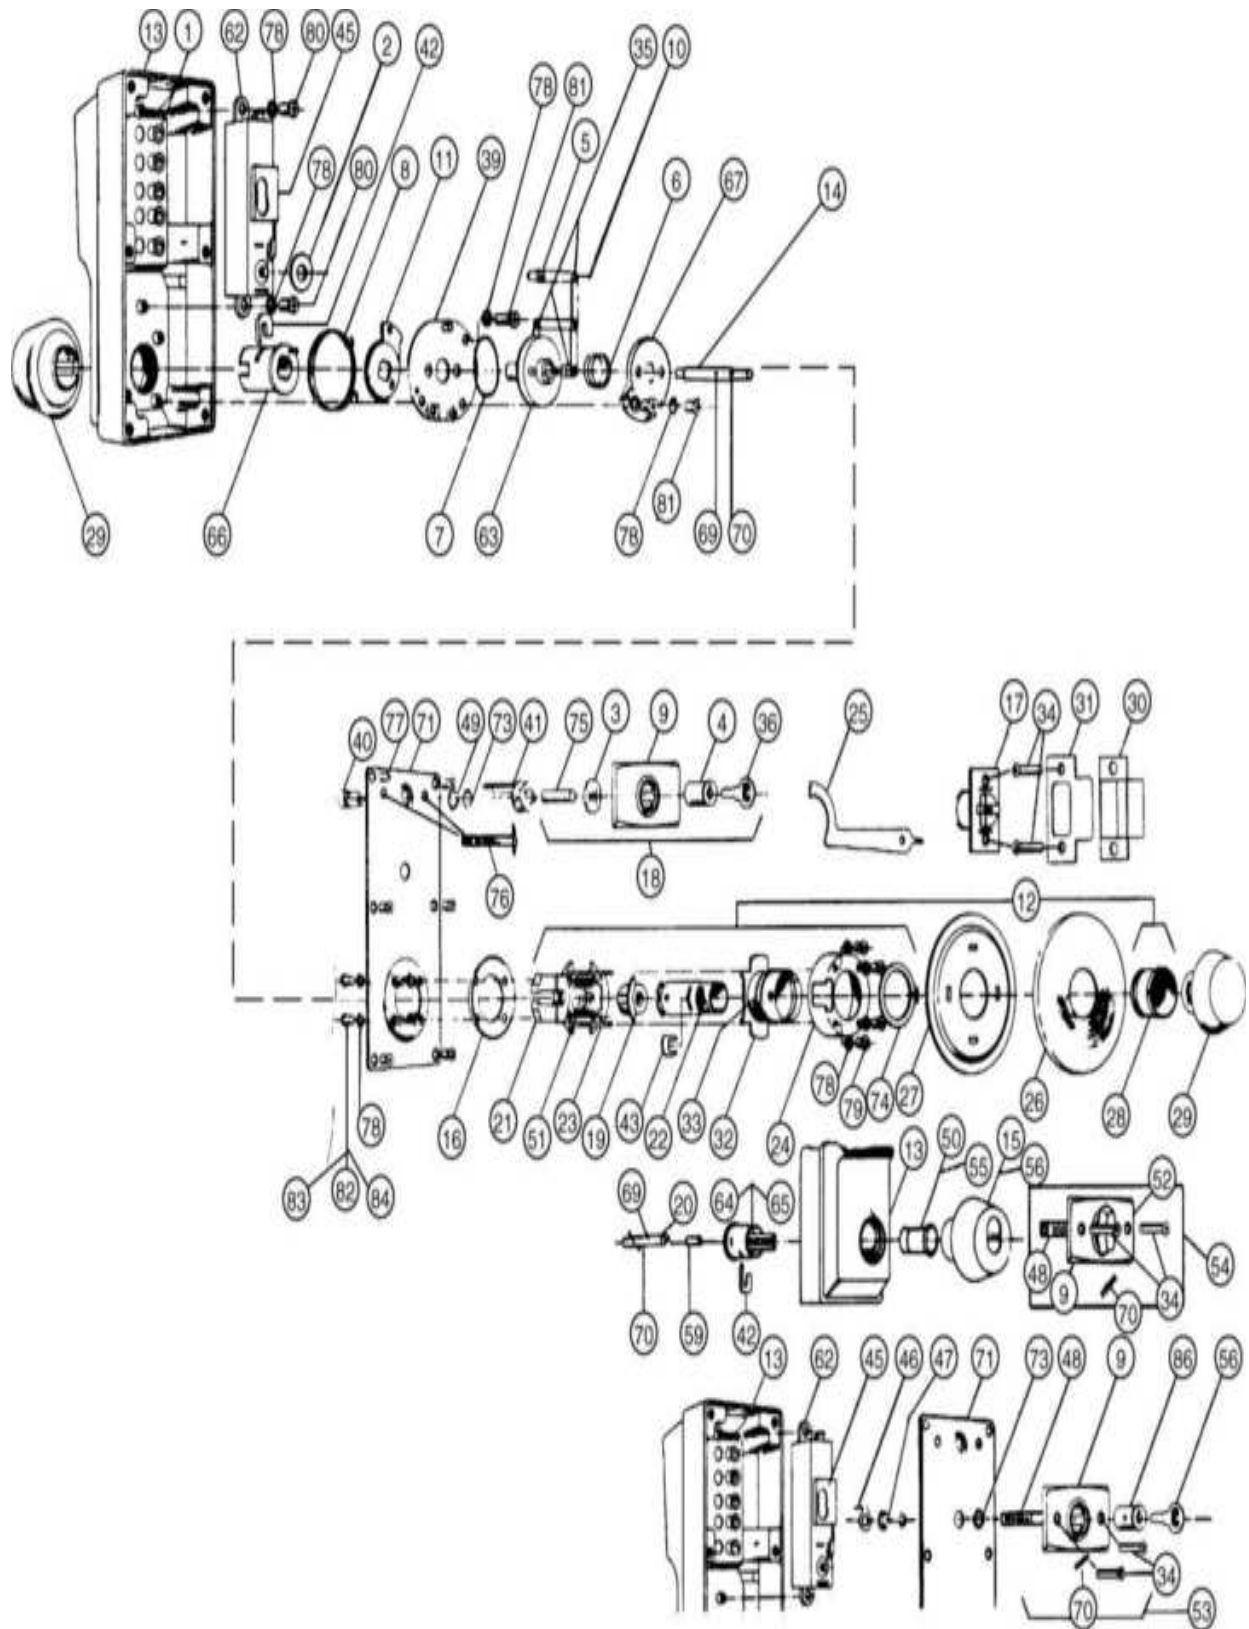

**Figure 18.39** Exploded view of the Unican 1000 lock unit. (*Simplex Access Controls Corp.*)
**Servicing.** You might be required to service the Unican 1000 series locks. In the majority of instances, servicing is the result of customer mishandling and abuse of the unit. Once in a very great while the unit itself may malfunction for some unknown reason. At this time, you will require some basic information concerning the various parts of the Unican 1000 unit and illustrative material for the proper assembly or disassembly. Figure 18.39 is an exploded view of the Unican 1000. Figure 18.40 is a parts item description and the assembly number and parts.